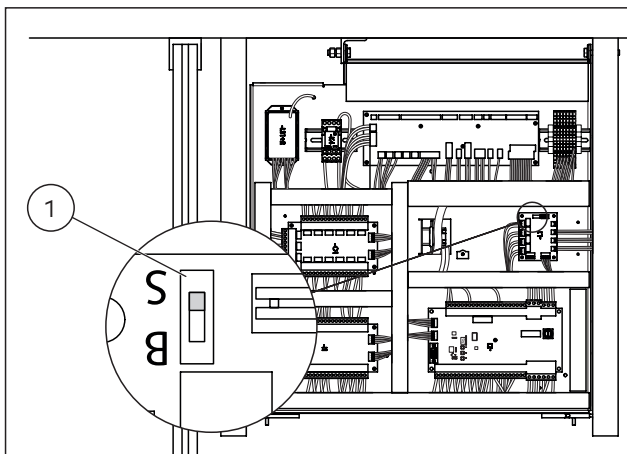

Fig. 104 DIP switch lock board in control unit
- DIP switch (Fig. 104/1) on the lock board in the control unit must be set to S.